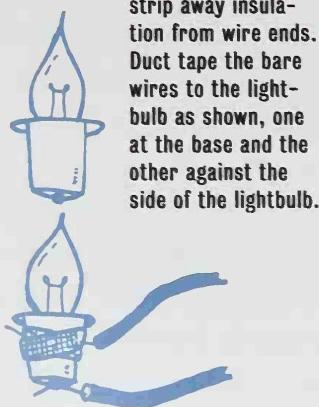

Fig. 2
3. Attach the other end of one of the wires connected to a battery terminal to the light bulb, as shown in Fig. 2. Attach a third wire to the bottom of the light bulb, as shown in Fig. 2. Use a piece of duct tape to tape the bulb's base to the battery. Make sure glass part of bulb is pointing up and not covered with tape.